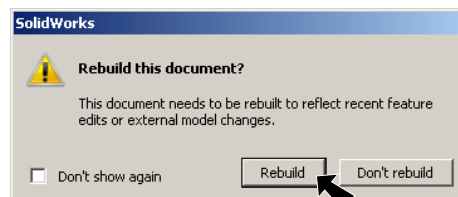

Fig. 13
Step 2. Click **Rebuild** in the Rebuild this document dialog box, Fig. 13.